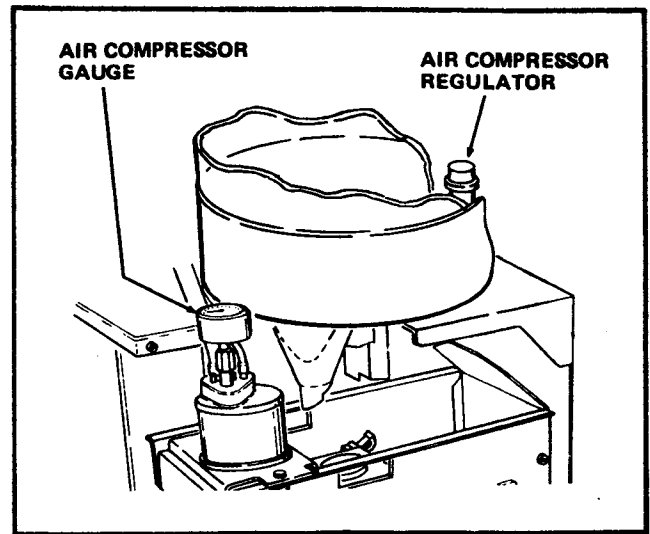

Figure 3-3. Air Compressor Adjustment
- A. Loosen the Adjusting Knob Lock on the Compressor Regulator. See Figure 3-3.